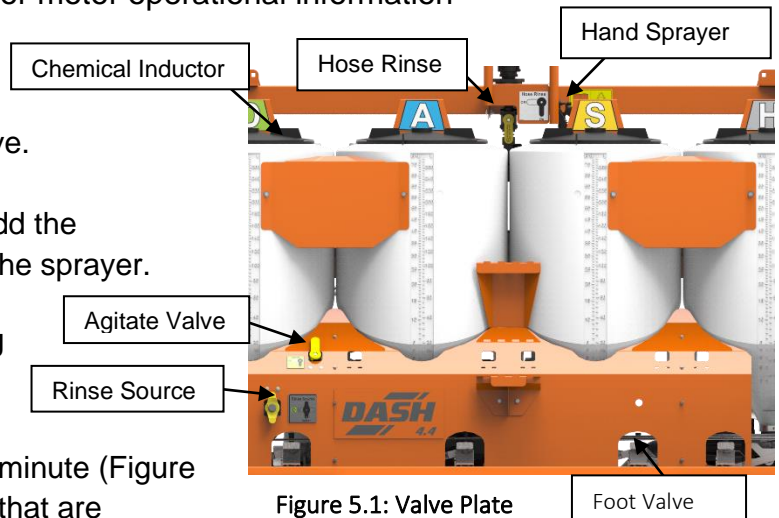

Figure 5.1: Valve Plate
3. Change the rinse source to inductor D or J (Figure 5.1).
4. Turn on the agitate valve and let run for 1 minute (Figure 5.1). Also, run any optional agitate valves that are installed.
8. Change the rinse source to water and fill the left inductor D or J, depending on the model, with minimum 30 gal using the agitate valve. (Figure 5.1).
9. Turn on the agitate valve and let run for 30 seconds (Figure 5.1). Also, run any optional agitate valves that are installed.
14. Turn on the agitate valve (Figure 5.1) and fill left inductor with enough fresh water to push any rinse water out of the main water hose.
15. Change the rinse source to inductor D or J (Figure 5.1).
16. Turn on the agitate valve and let run for 30 seconds (Figure 5.1).
17. Turn the rinse source back to water (Figure 5.1).
4. Run all installed agitate valves to vent water from lines. (Figure 5.1)
5. Open all the inductor valves (Figure 5.2). Using foot valves activate all jug rinse nozzles to vent hoses. (Figure 5.1)
7. Set Rinse Source to Water. (Figure 5.1)
10. Set Rinse Source to D or J. (Figure 5.1)
11. Turn on all installed Agitate valves for 5 sec. (Figure 5.1)
12. Turn on Hand Sprayer for 5 sec. (Figure 5.1)
4. Set Rinse Source to Water. (Figure 5.1)
5. Turn on all installed Agitate valves and let run for 30 sec. (Figure 5.1)
8. Turn on Hand Sprayer and let it run until the antifreeze is flushed out. (Figure 5.1)